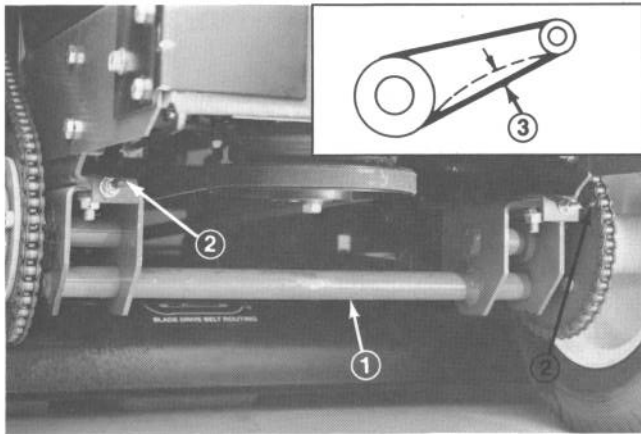

Figure 33
1. Check deflection of drive chain by pressing up on chain with approximately 10 lbs force (moderate pressure) at mid span. There should be 1/2" deflection (Fig. 33). If deflection is not as specified an adjustment is required.